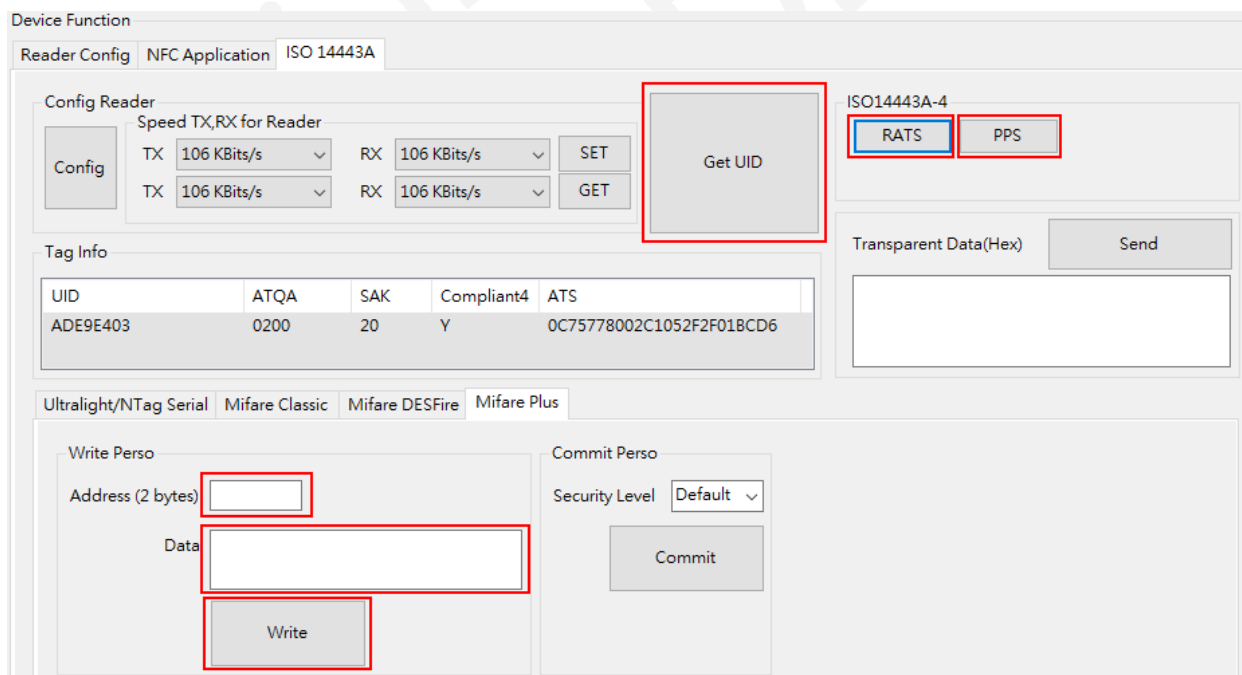

Figure 7.1-1 Write perso
6. Click “Write” button to change the data and AES keys from the initial delivery configuration to a customer specific value, as shown in Figure 7.1-1.